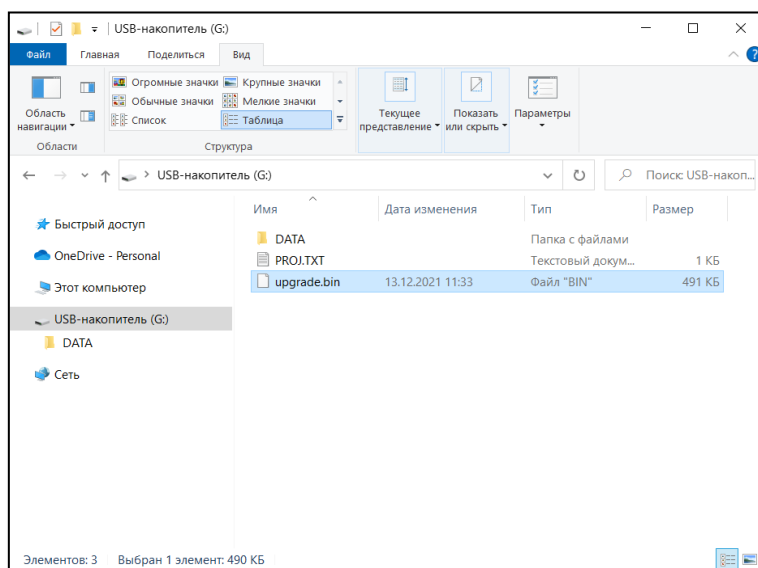

Figure 123 Root folder with firmware file
4.2.3. Copy the firmware file *upgrade.bin* to the root directory of the magnetometer. If the firmware file name is different from *upgrade.bin*, e.g. *SmartMag\_326.bin*, change the file name to *upgrade.bin* (Figure 123).